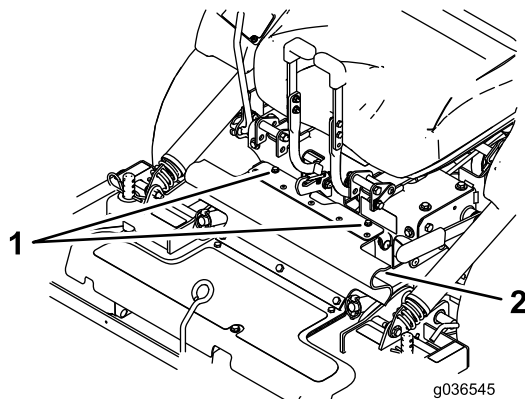

Figure 23
3. Loosen the bolts attached to the rubber guard (Figure 23).